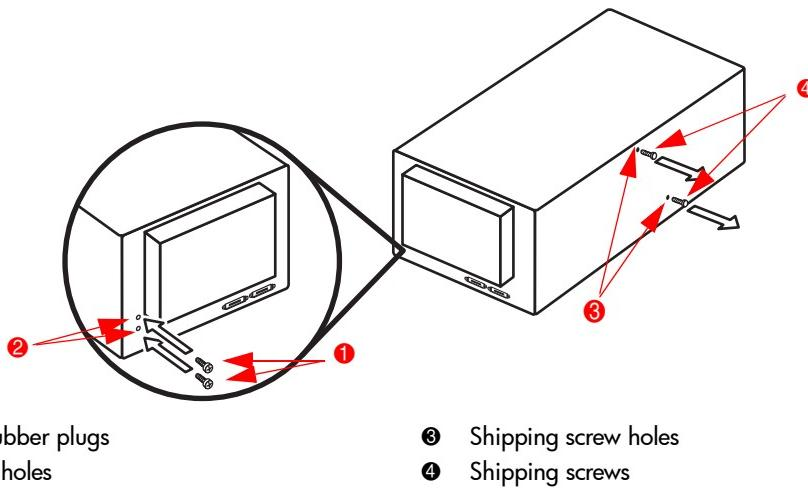

Figure 15: Install the shipping screws
10. Install the shipping screws (see Figure 15):